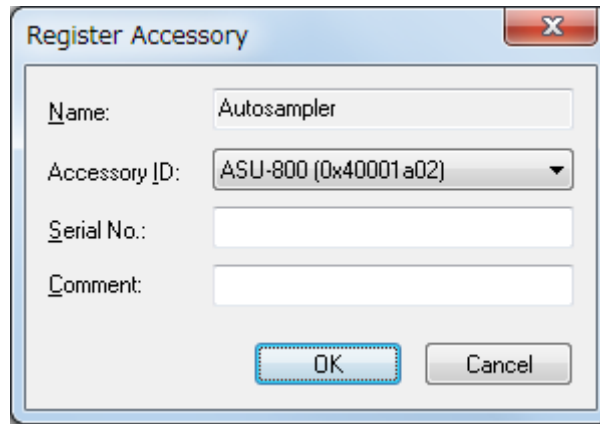

Figure 3.17 [Register Accessory] dialog box
- (2) Click the <Add...> button to display the dialog box in Fig. 3.17.